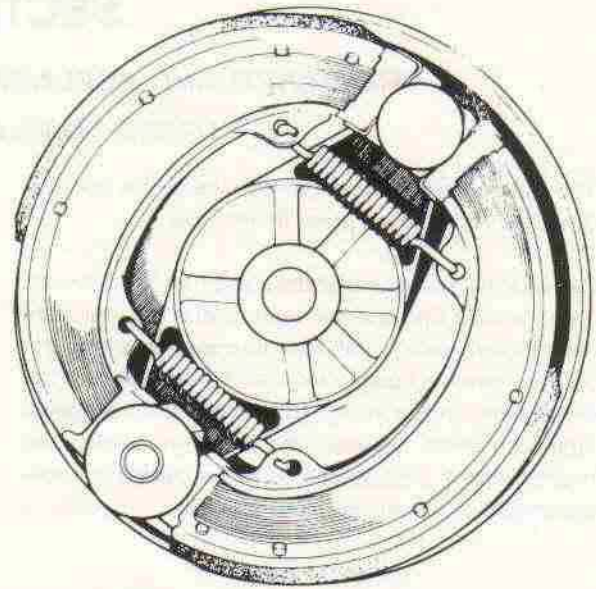

Fig. F20. Position of brake shoes
**Note.** When replacing the brake shoes, note that the leading and trailing brake shoes are not interchangeable and ensure that they are in their correct relative positions as shown in Fig. F20.